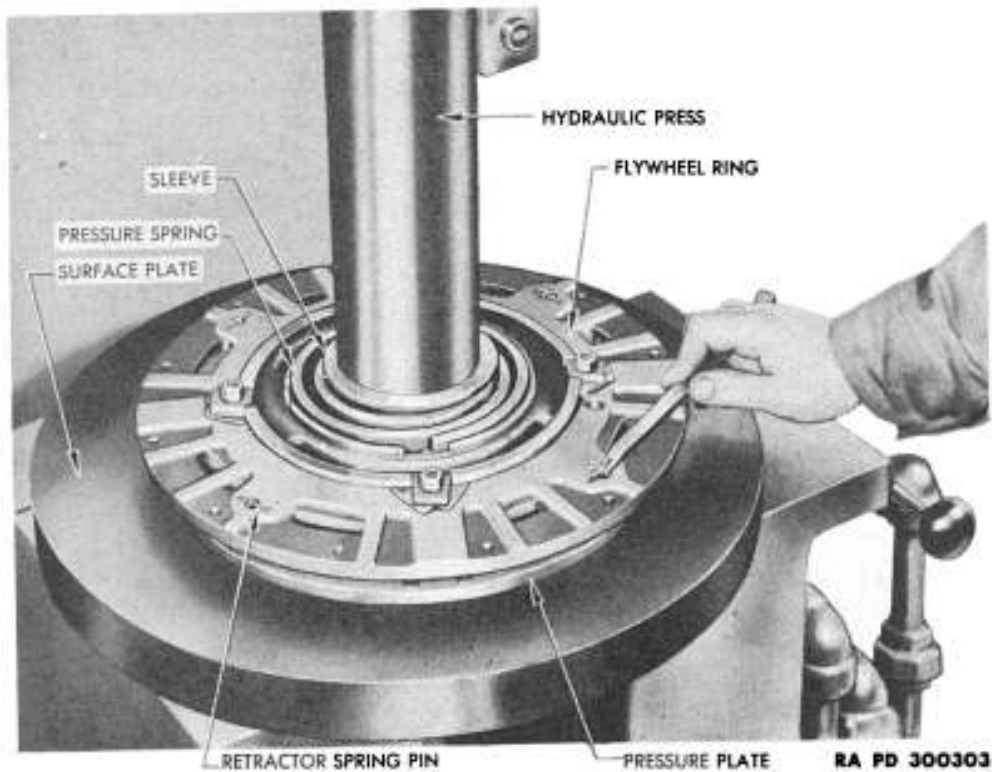

Figure 3 — Removing Pressure Plate Retractor Spring Pin
(1) Place clutch cover assembly in arbor press with pressure plate facing downward (fig. 3). Install pilot on release sleeve face and compress pressure spring to limit of travel.